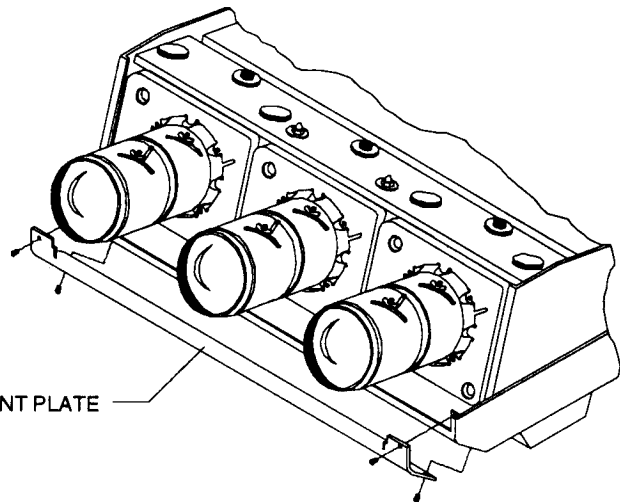

FIGURE 9-33. AMPRO 4600 front plate removal.
- STEP 3. On the front of the 4600, remove the four (4) each phillips screws securing the front plate to the chassis. See Figure 9-33